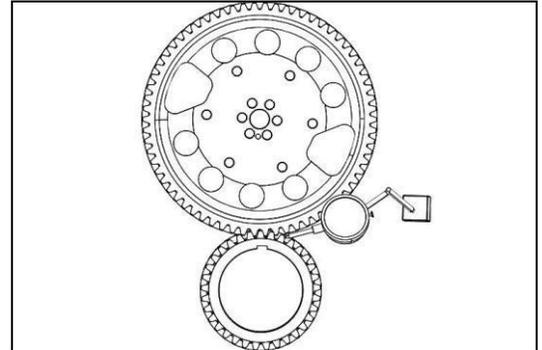

Figure 91
- Install a dial indicator as shown in Figure 91.